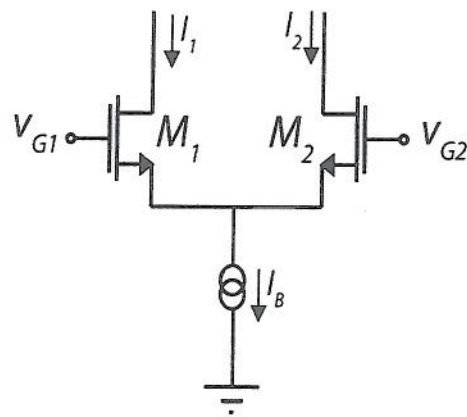

Figure 6.1
6. Figure 6.1 shows a differential pair, where transistors M_1 and M_2 are operating in the weak inversion region. Their associated currents are given by:
Hint: The input current I_s is equal to the output current I_{out} from the previous stage and the function $g_K \cdot s$ can be generated from a similar circuit to Figure 6.1.